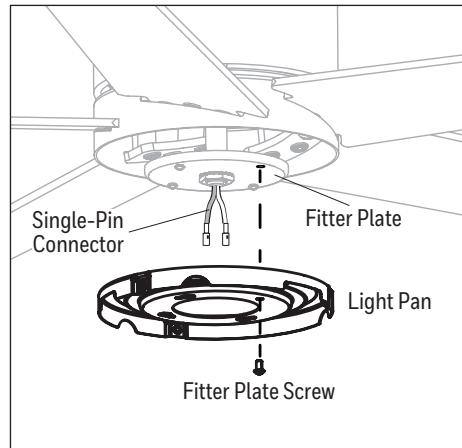

Figure 4.5
5. Remove one of the four fitter plate screws preassembled to the fitter plate and loosen the other three but do not remove. Feed the single-pin connectors through the center hole in the light pan. Align the keyhole slots in the light pan with the loosened screws in the fitter plate. Turn light pan clockwise and replace the previously removed fitter plate screw. Tighten all screws (Figure 4.5).